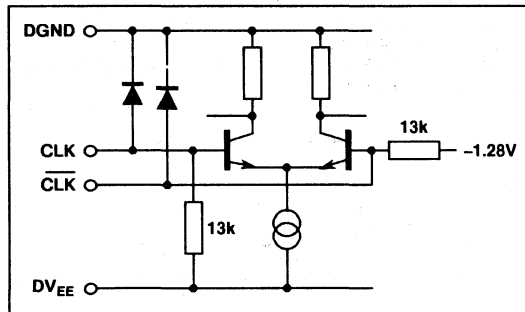

Fig.7 Clock inputs
**Clock Inputs CLK and  $\overline{\text{CLK}}$  (Figs. 7 and 8)**